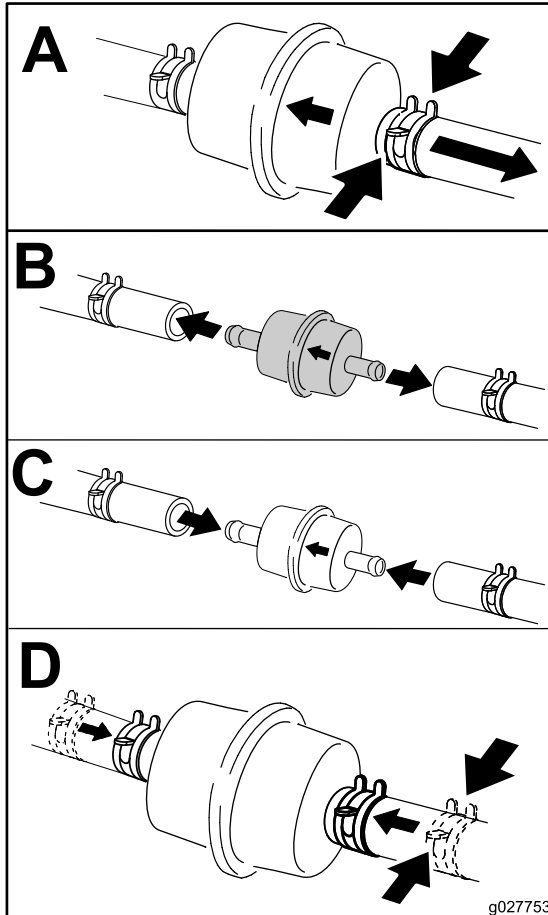

Figure 40
3. Replace the in-line filter (Figure 40).